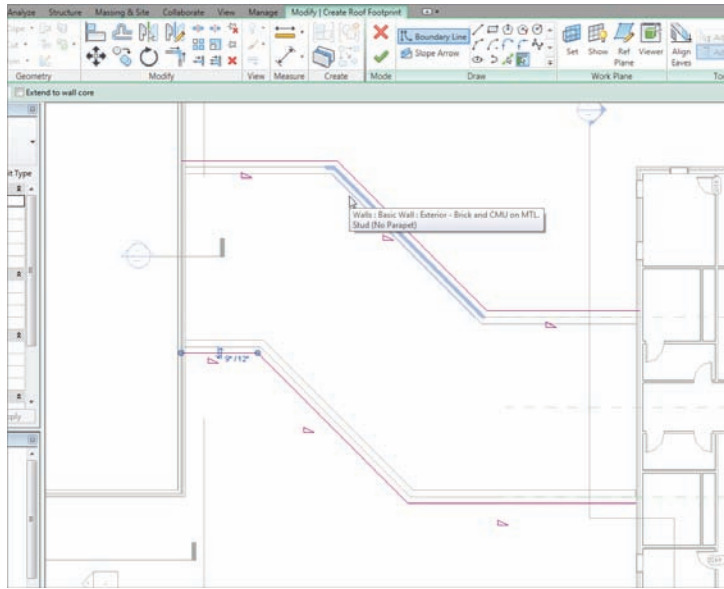

FIGURE 7.23 Pick these walls for the roof's footprint.
6. Pick the six walls that compose the corridor, as shown in Figure 7.23.